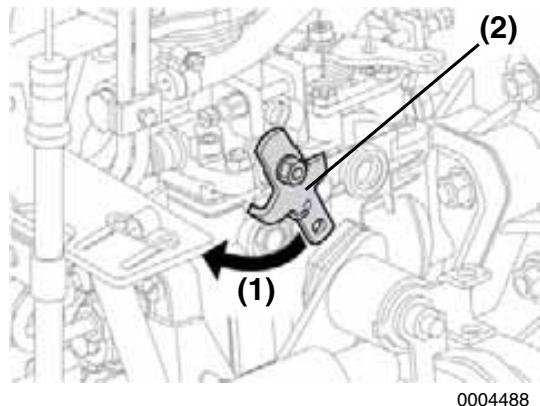

Figure 21
- a. Move and hold (**Figure 21, (1)**) the stop lever (**Figure 21, (2)**) on the governor to stop fuel flow while cranking.